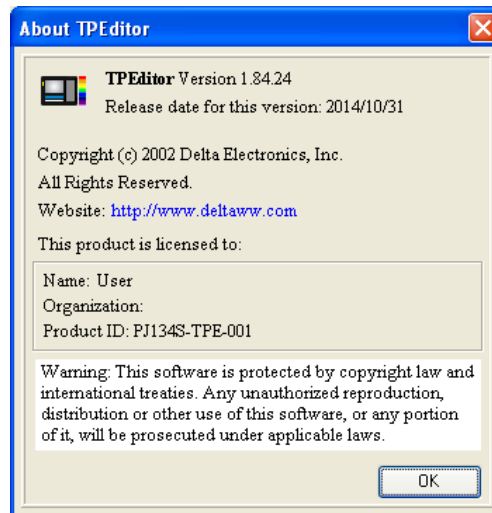

Figure 3-17 About
- **About:** The information about TPEditor is displayed, as shown in Figure 3-17.